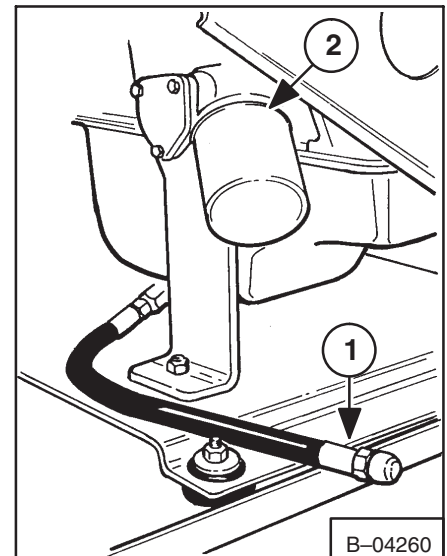

**Fig. 1-12A Governor Oil Level Check**
1. Remove the check plug (Fig. 1-12A, Item 1).
3. If no oil flows, remove the fill plug (Fig. 1-12A, Item 2) and add SAE 10W-30 or 10W-40 oil until it flows from the check plug hole.